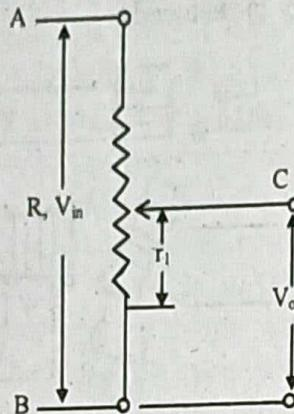

Fig: 2 Working a potentiometer
A and B are two fixed terminals having resistance R. If a constant d.c. voltage ( $V_{in}$ ) is applied across the fixed end terminals (A and B), then an output voltage  $V_o$  is obtained from the variable terminal (C) with respect to an end terminal. (say, B) as shown in the figure 2.
Referring to the figure 2, due to voltage division,